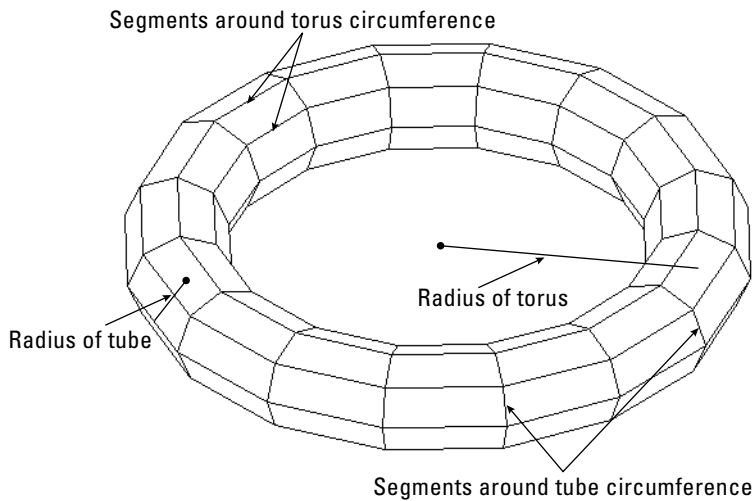

Figure 23-20: A torus.
A *torus* is a 3D donut, as shown in Figure 23-20.
3. At the Specify radius of torus or [Diameter]: **prompt**, specify the radius of the torus, as shown in Figure 23-20, or use the Diameter option to define the diameter.